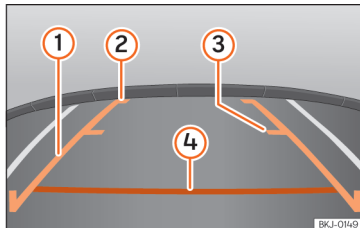

Fig. 169 Display on the Infotainment system screen.: guide lines.
- Vehicle load modifies the representation of the guide lines »» Fig. 169. The width represented by the lines decreases with vehicle load. Pay special attention to the surroundings when the inside of the vehicle of the luggage compartment are loaded.
Meaning of the orientation lines »» Fig. 169